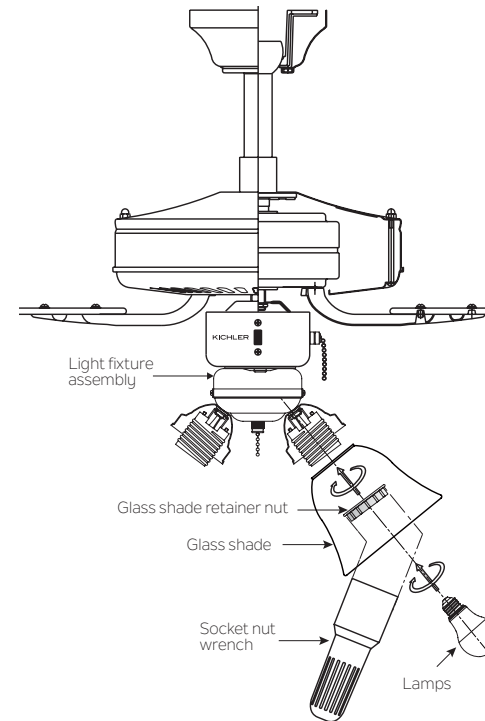

Fig. 3
1. Remove the glass shade retainer nut from each socket. Insert a glass shade (not include) into the glass holder, then replace and tighten the retainer nut until it is tighten firmly. Repeat this procedure for the remaining glass shades. (Fig. 3)
2. Install 4, 9 watt E26 LED lamps (provided), one in each fixture socket. (Fig. 3)